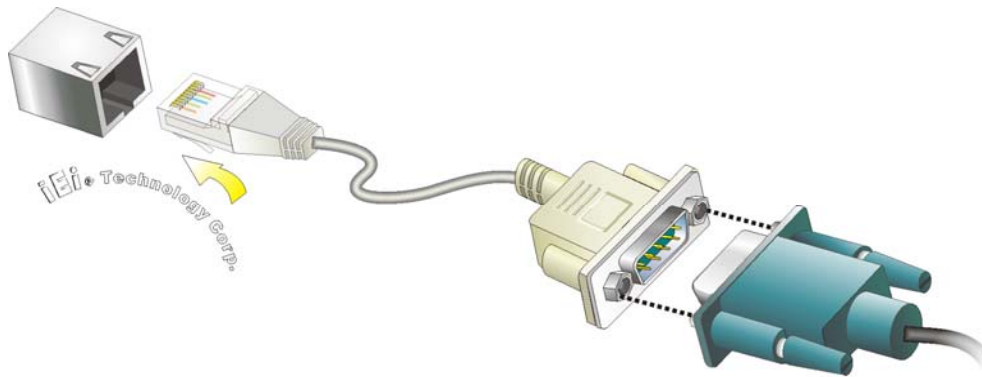

Figure 3-24: RJ-45 Serial Port Connector
Step 2: **Connect the RJ-45 to COM port cable to the panel PC.** Insert the RJ-45 connector end of cable into the RJ-45 serial port. See **Figure 3-24**.
Step 3: **Connect the serial device.** Connect a serial device to the DB-9 connector end of the cable. See **Figure 3-24**.